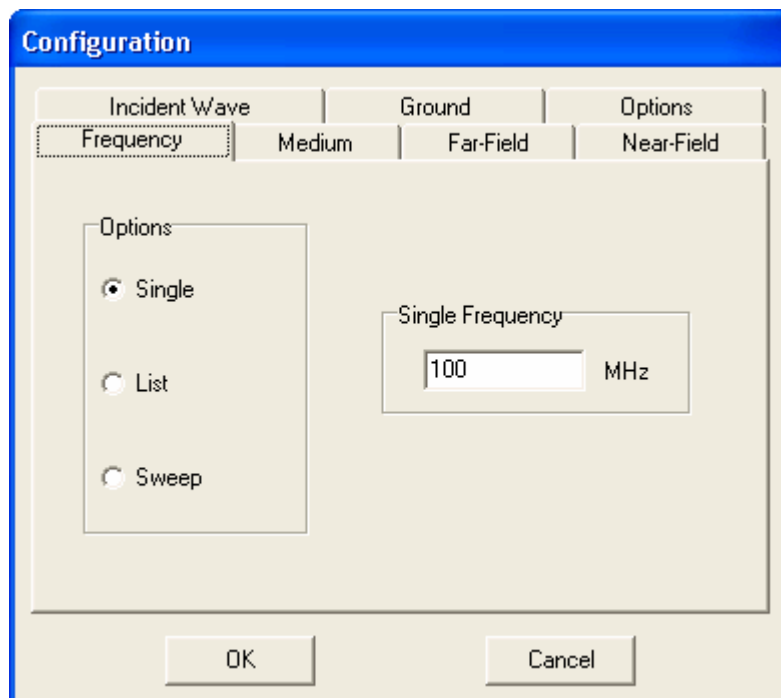
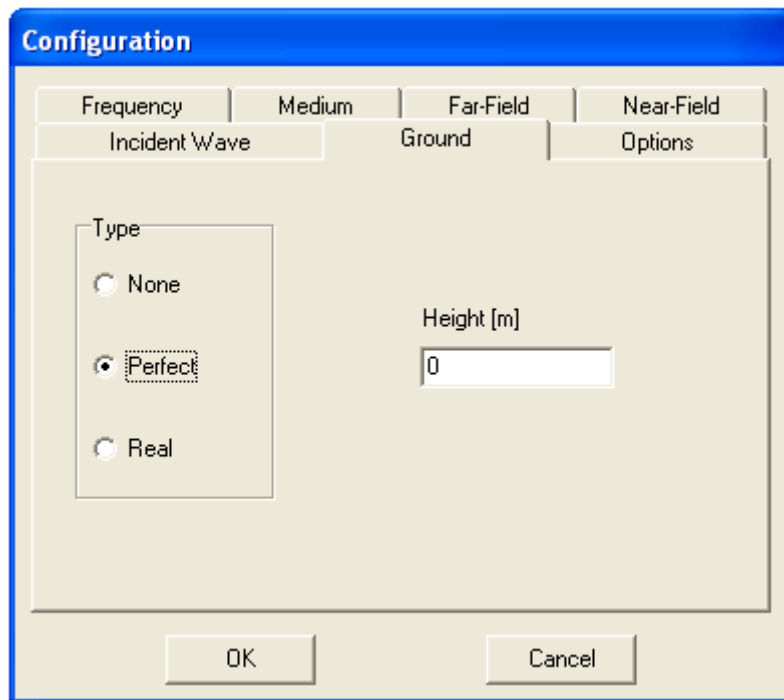

Fig. 14.9: The Frequency page in the Configuration dialog box.
Fig. 14.10: The Ground page in the Configuration dialog box.
Step 1: Go to Edit/Preferences in the main menu and select MHz and mm as frequency and length units, respectively. Choose Simulate/Configure... in the main menu. In the Frequency page of the Configuration dialog box select Single and fill the Single Frequency box as shown in Fig. 14.9. Then, choose the Ground page and fill it as shown in Fig 14.10.